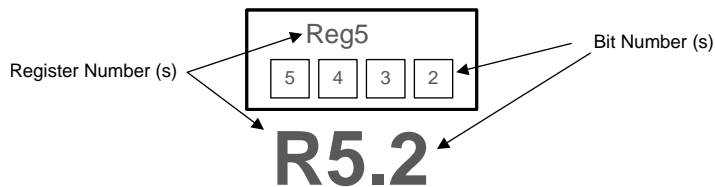

Figure 42. LMK03318 Register Reference Format
Figure 42 shows the method that this document employs to refer to an individual register bit or a grouping of register bits. If a drawing or text references an individual bit the format is to specify the register number first and the bit number second. The LMK03318 contains 124 registers that are 8 bits wide. The register addresses and the bit positions both begin with the number zero (0). A period separates the register address and bit address. The first bit in the register file is address 'R0.0' meaning that it is located in Register 0 and is bit position 0. The last bit in the register file is address R31.7 referring to the 8th bit of register address 31 (the 32nd register in the device). Figure 42 lists specific bit positions as a number contained within a box. A box with the register address encloses the group of boxes that represent the bits relevant to the specific device circuitry in context.